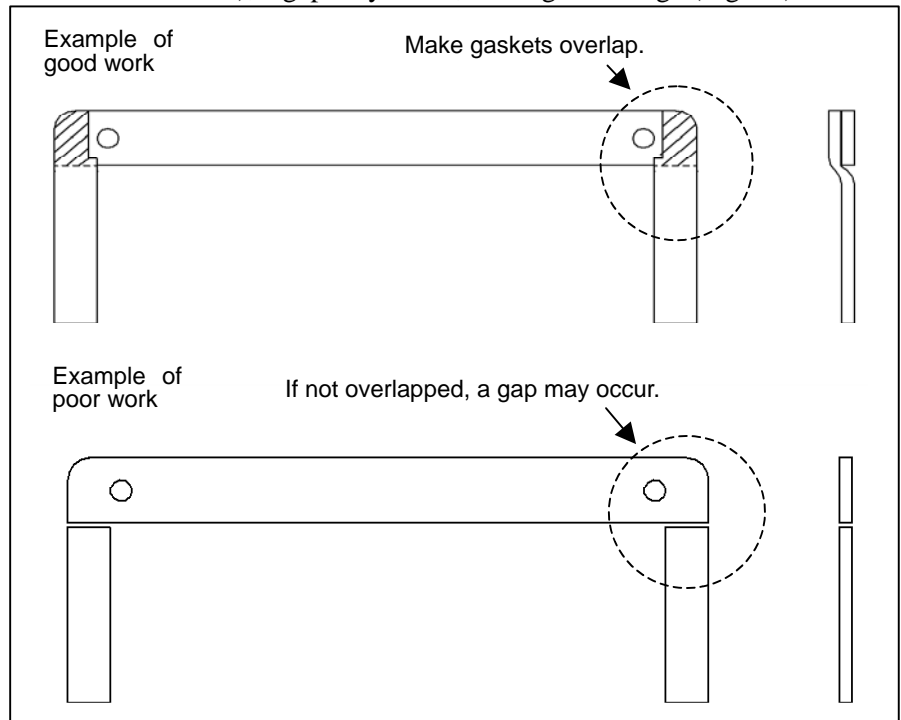

Fig. 10 How to attach gaskets
- <9> If holes are made in a power magnetics cabinet wall panel to install an amplifier, attach the supplied gaskets to the holes to seal up the cabinet. At each corner of the amplifier, make gaskets overlap with each other. If not (for example, gaskets are cut short), a gap may occur, leading to leakage (Fig. 10).